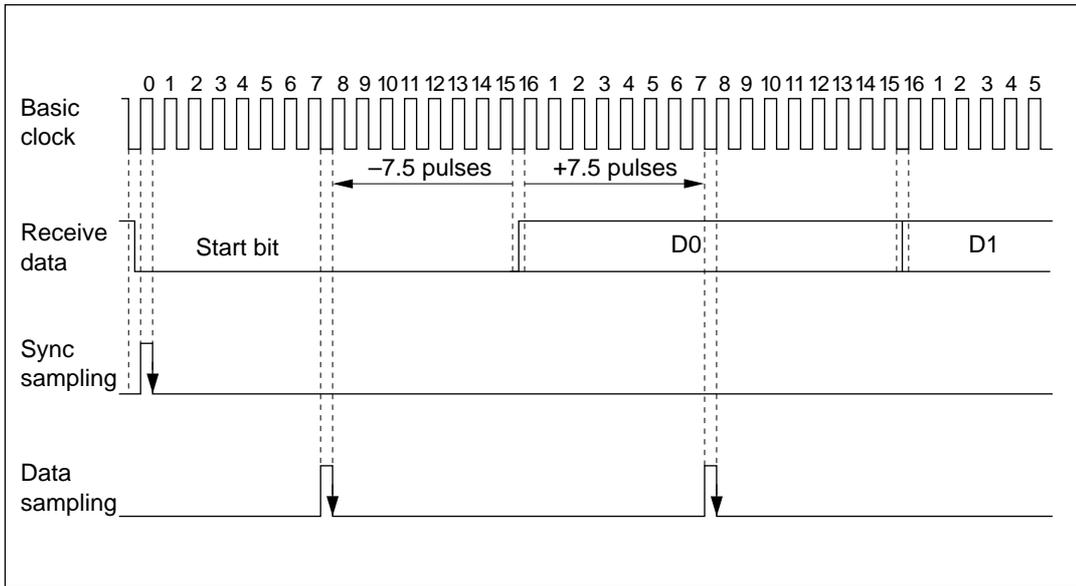

Figure 12-18 Sampling Timing (Asynchronous Mode)
(4) Sampling Timing and Receive Margin in Asynchronous Mode: The serial clock used by the SCI in asynchronous mode runs at 16 times the baud rate. The falling edge of the start bit is detected by sampling the RxD input on the falling edge of this clock. After the start bit is detected, each bit of receive data in the frame (including the start bit, parity bit, and stop bit or bits) is sampled on the rising edge of the serial clock pulse at the center of the bit. See figure 12-18.